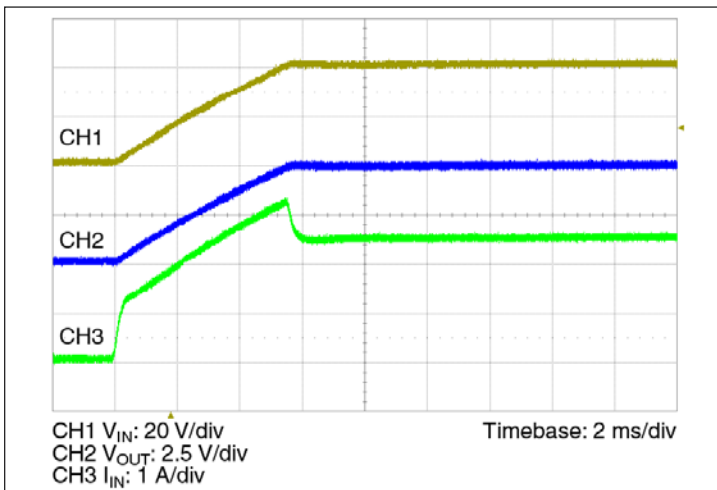

Figure 13 — Start up from application of  $V_{IN}$ ; VC pre-applied  $C_{OUT} = 0 \mu$ F
- **Normal Operation (VC applied prior to VIN):** In this case the controller is active prior to ramping the input. When the input voltage is applied, the VTM output voltage will track the input (See Figure 13). The inrush current is determined by the input voltage rate of rise and output capacitance. If the VC voltage is removed prior to the input reaching 26 V, the VTM module may shut down.